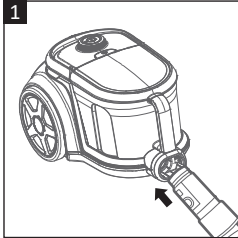

Fig. 1
- Align the neck of the suction hose (6) with the hose receptacle (9) on the vacuum cleaner and push firmly until it locks into place (**Fig. 1**).